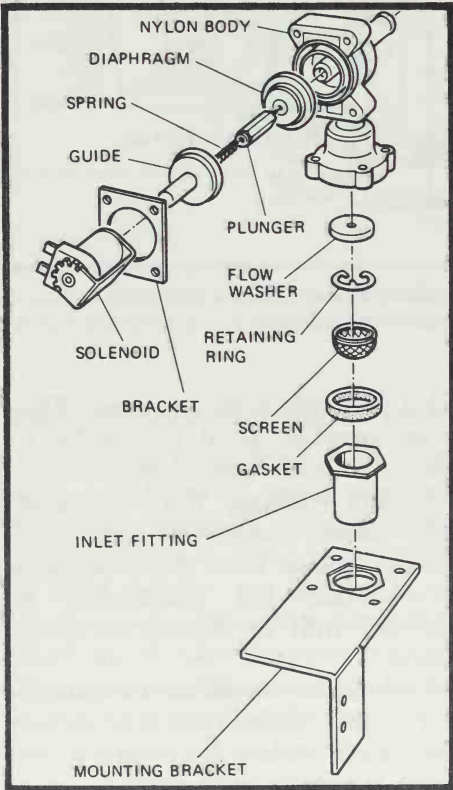

Figure 7. This drawing shows the makeup of the water inlet valve. Refer to it if you need to repair the valve.
2. **Filling.** The drain valve closes, the pump shuts off, and the water-inlet valve in the hot-water line opens (Figure 7). Water enters the tub. During this phase, the motor (or motors) is not operating.